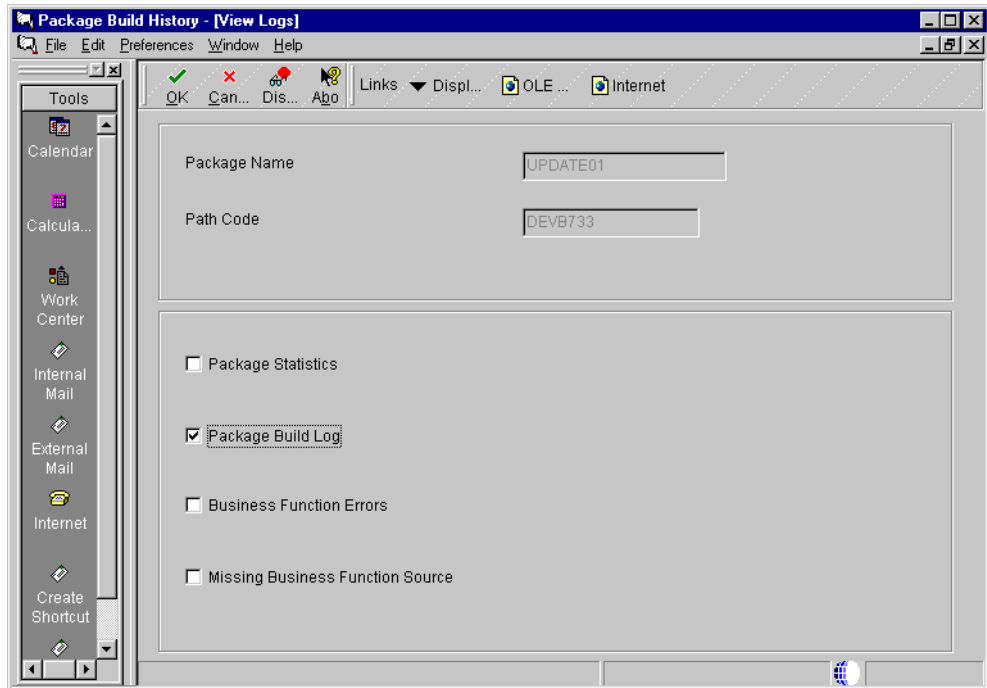

Figure 160. View Logs
2. Choose **View Logs** from the Form menu. The View Logs form appears (Figure 160).